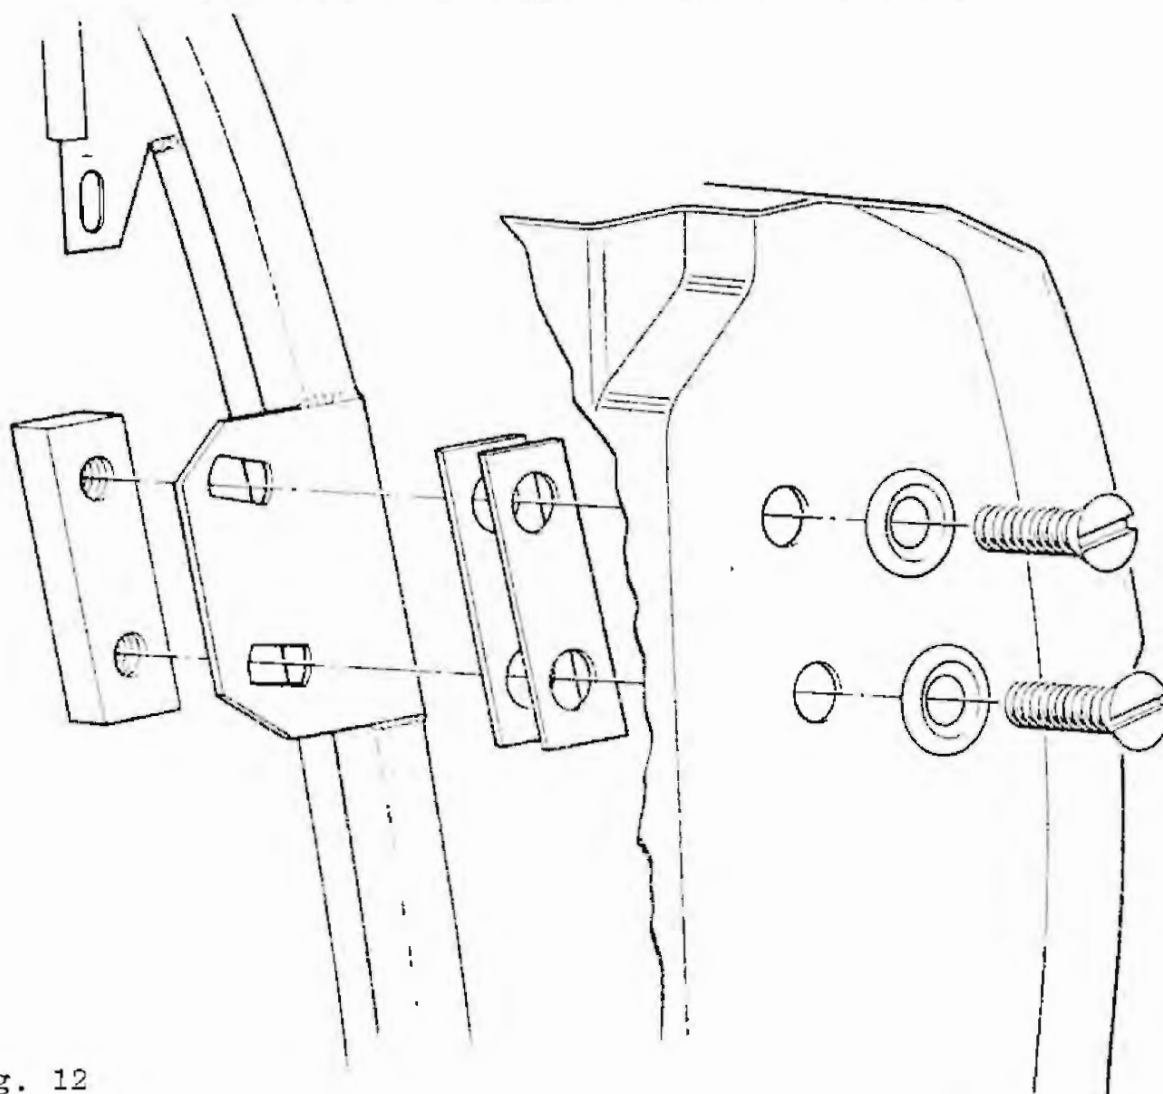

Fig. 12
31. Secure with the setscrews, cup washers, and tapping block as shown in figure 12.